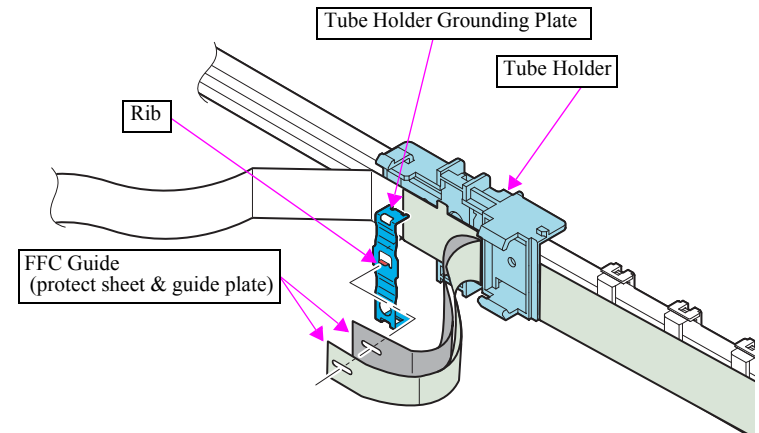

Figure 4-86. Assembling the IC Holder Assy (1)
- Insert the rib of the Tube Holder Grounding Plate into the hole (2) of the Main Frame. See Figure.4-81, Figure.4-86.